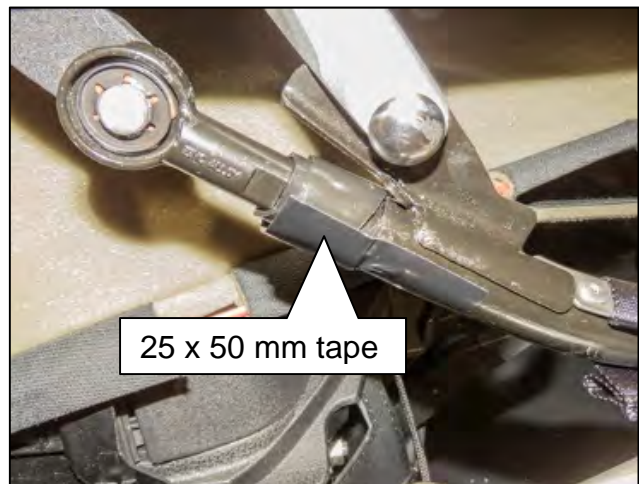

Figure 36
43. Apply the 25 x 50 mm tape (TAPE) over the bottom side of both cover-bolts, as shown in Figure 36.